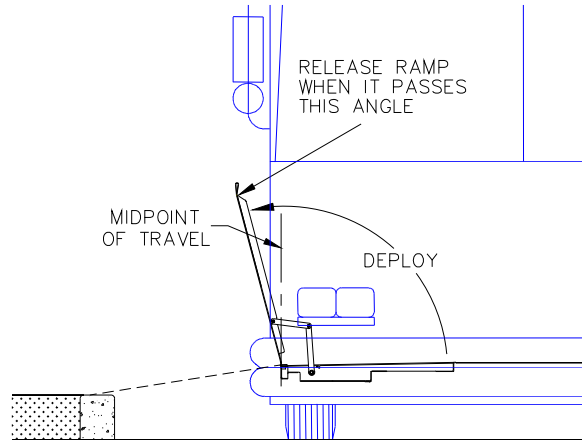

FIGURE 3-5: RAMP MIDPOINT DURING MANUAL DEPLOY
- 4) Refer to **Figure 3-5**. Release ramp after it passes through its midpoint of travel (approximately vertical); it will continue unfolding without assistance.